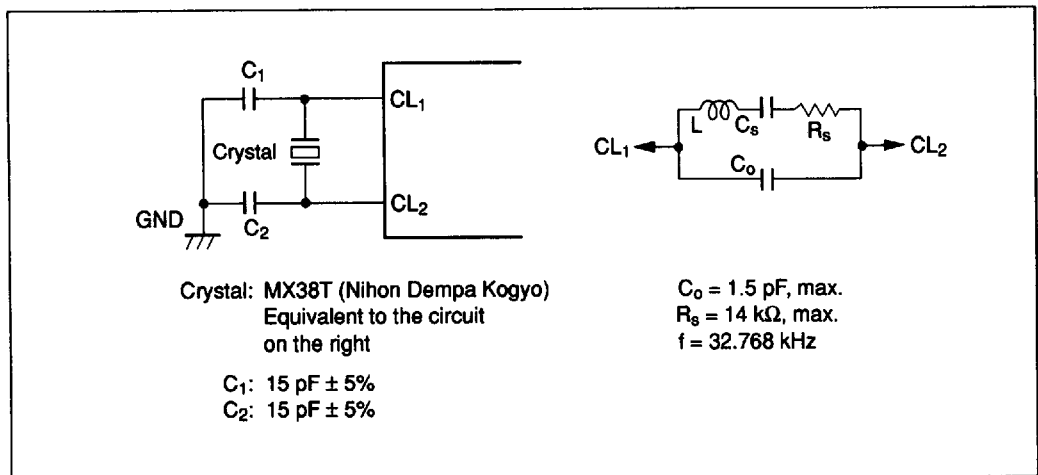

Figure 69 Oscillation Circuits (2)
2. The oscillation stabilization time is the period required for the oscillator to stabilize after V_{CC} reaches 3.0 V at power-on (figure 69). If using a crystal oscillator, contact the manufacturer to determine the circuit constants, since the stabilization time depends on the circuit constants and stray capacitances.